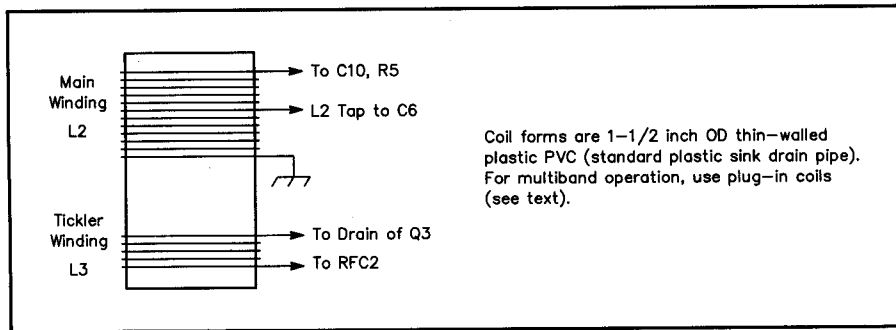

Fig 17.77—Details and winding data for L2/L3.
- L2, L3—Plug-in coils (see Fig 17.77 for winding data).
- Q1-Q3—2N4416 Motorola VHF N-channel JFET (NE).
This receiver can use a single fixed coil form for L2 and L3 to cover a single range of frequencies or it can use plug in coils to cover several bands (Fig 17.77). For fixed coils, standard 1 1/2-inch thin-wall PVC pipe (plastic sink drain pipe) is easy to find, and it works well. Use #20 enameled wire to wind both L2 and L3 in the same direction. To avoid detuning effects, wind L3 on the bottom (ground end) of L2, with a 1/4" space between windings as shown in the figure.
(Calculated inductance values for the coils are given in Fig 17.77.)